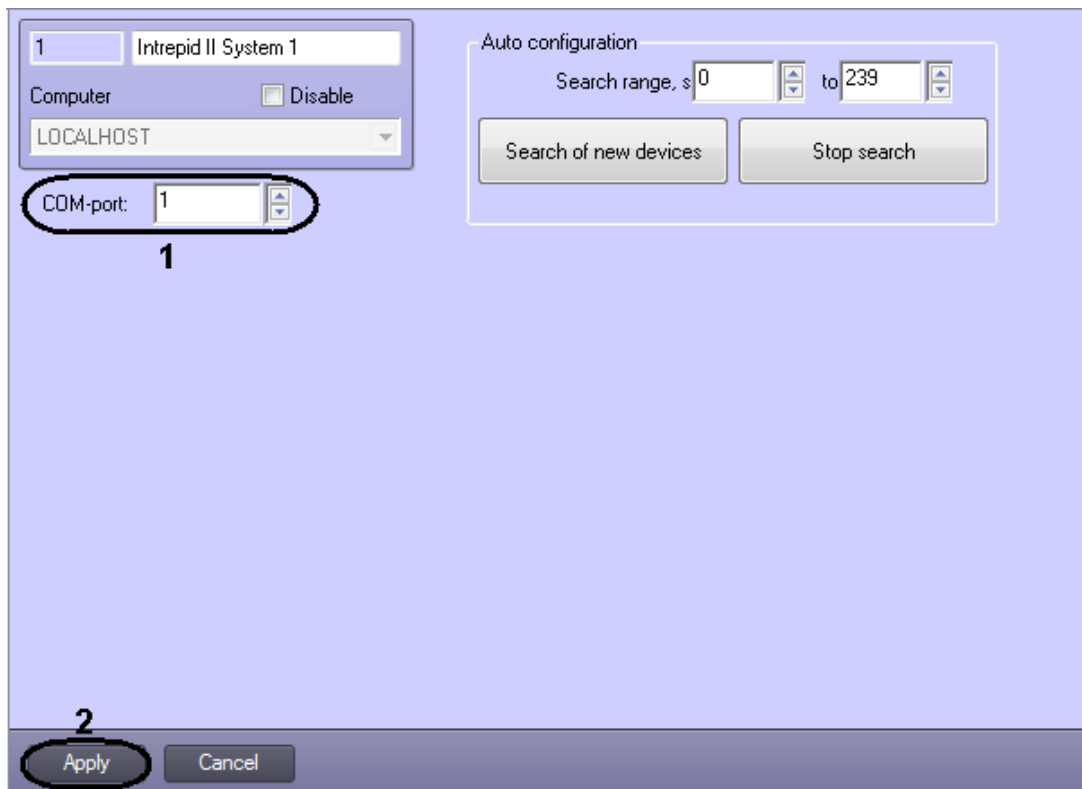

Fig. 3.2—2 Configuring the Intrepid II System connection to the Server
2. In the **COM-port:** field enter the number of the COM port for the *Intrepid II System* connection using the **up - down** buttons (Fig. 3.2—2, 1).
3. Click **Apply** button (Fig. 3.2—2, 2).